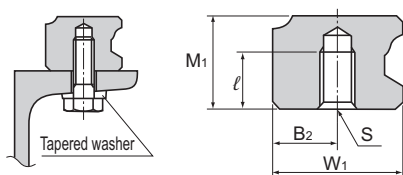

Fig. 2
(1) As shown in Fig. 2, a tapered washer is also available that allows GSR to be mounted on a steel flange.
(2) For model number coding, see **A1-296**.